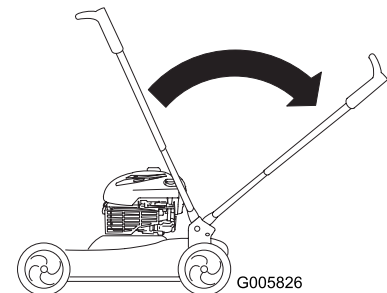

Figure 47
4. To unfold the handle, simply return the handle to the operating position (Figure 47).